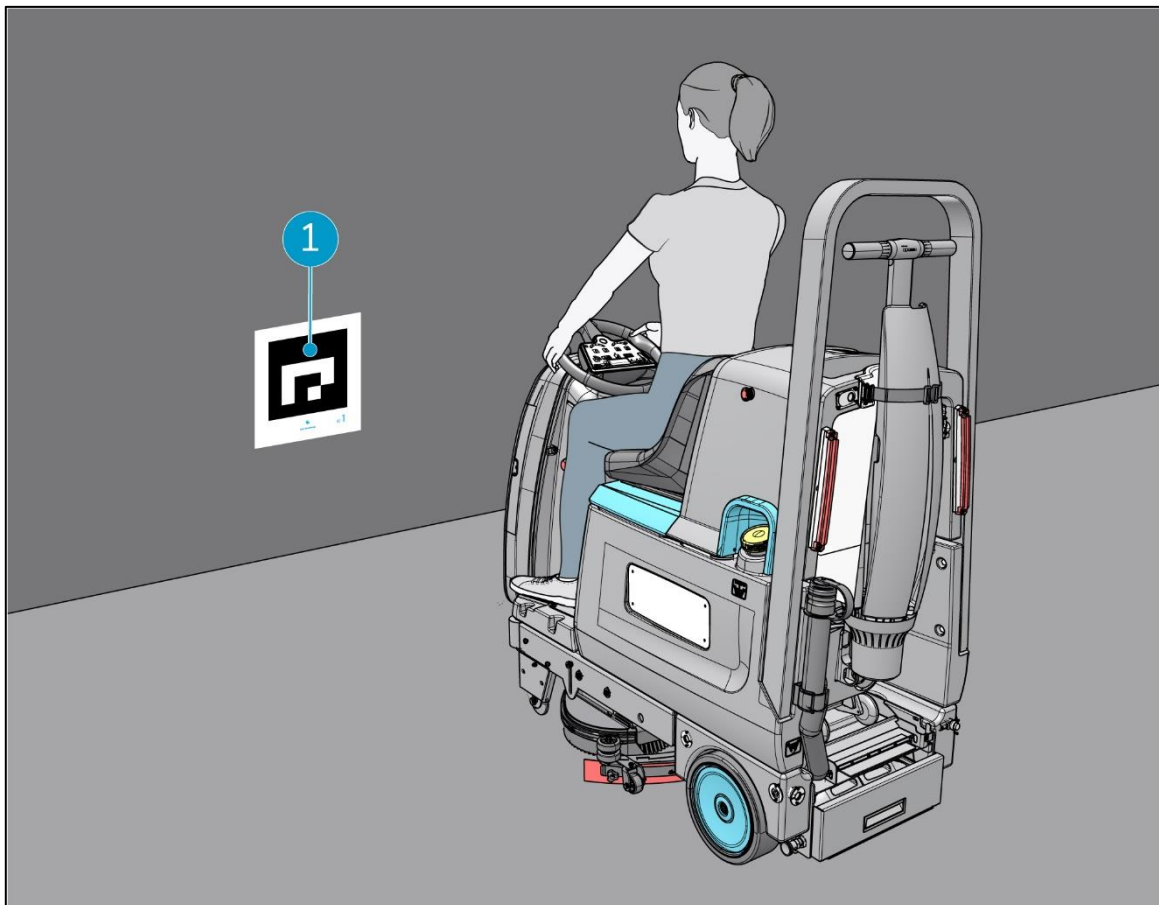

Figure 32
6. Drive the CO-BOTIC 65™ to a location marker (Figure 32).